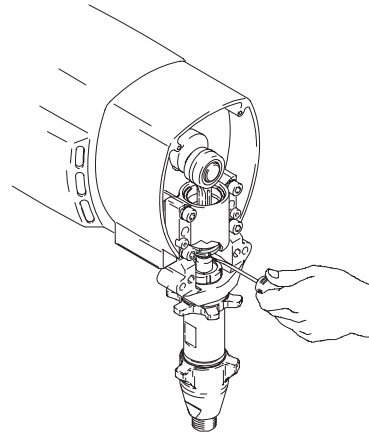

Fig. 26
3. Fig. 26. Push retaining spring into groove all the way around connecting rod.